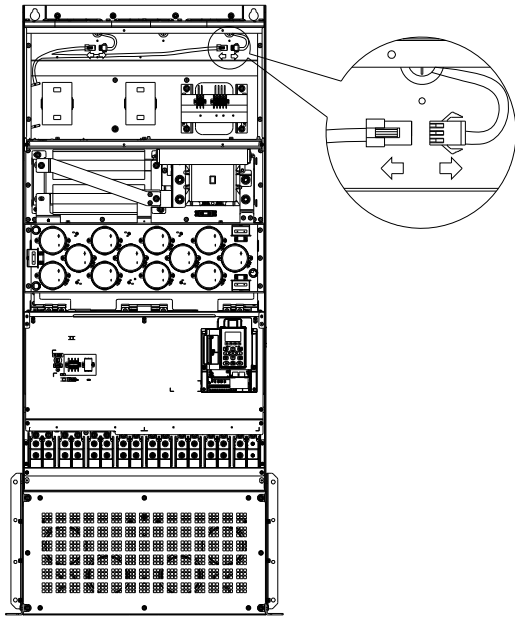

Figure 3
3. Disconnect the fan connector (figure 3).